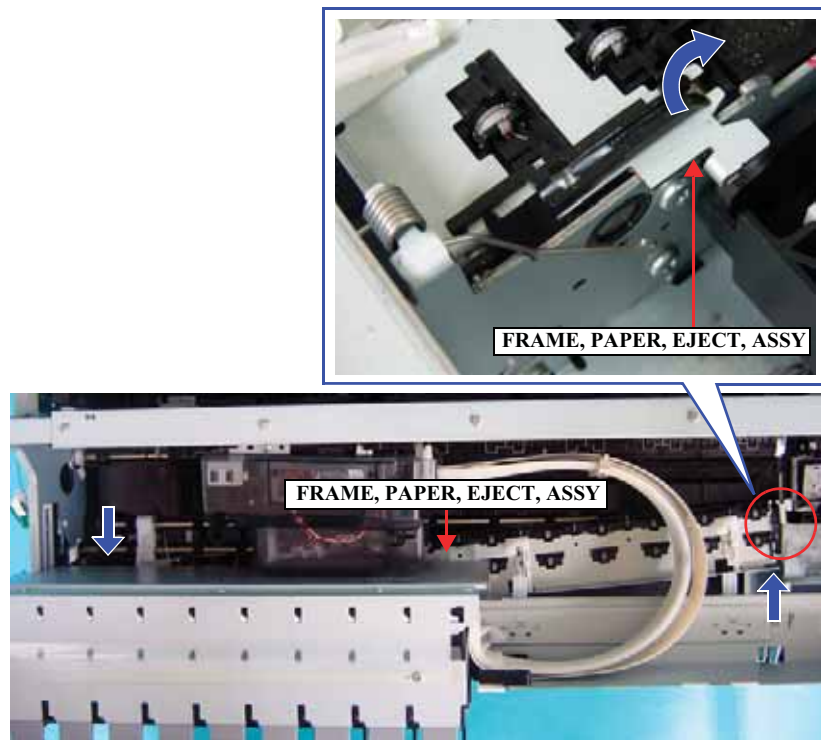

Figure 4-74. Tilting the FRAME, PAPER, EJECT, ASSY
12. Tilt the FRAME, PAPER, EJECT, ASSY in the direction shown in the Figure 4-74. Lift up the right side of the FRAME, PAPER, EJECT, ASSY slightly to pass it over the bump of the FRAME, ASSY, MAIN as shown in the Figure 4-74.